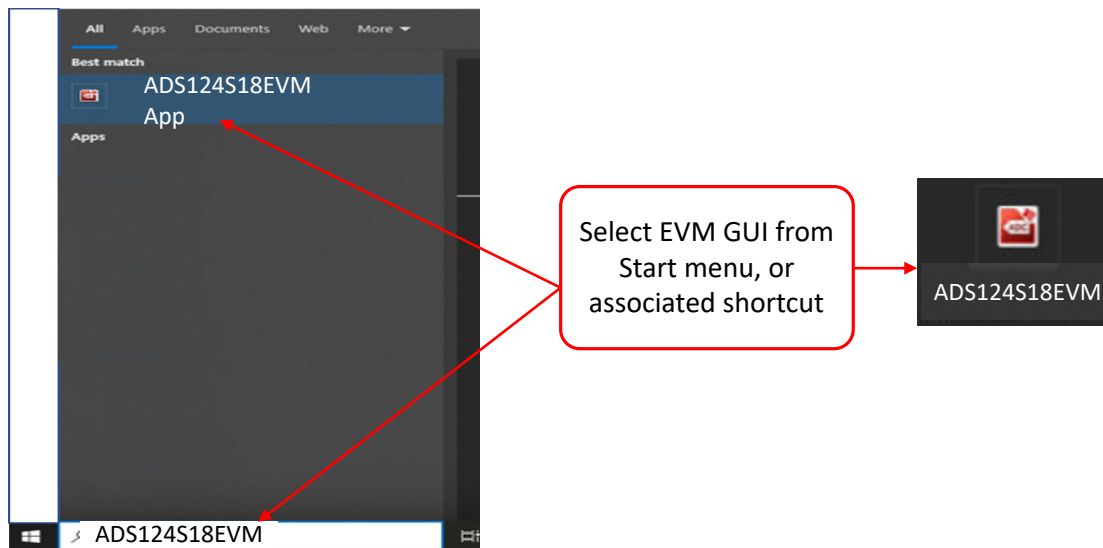

Figure 4-2. Launch the ADS124S18EVM GUI Software
5. Launch the GUI software by using the start menu as shown in Figure 4-2 or the installed icon. Check if the *Connected* indicator in the lower right corner in the GUI is green which indicates the ADS124S18EVM and PAMB controller card are successfully connected and communicated with the GUI. If the indicator is gray, check the *Demo Mode* in the upper right corner of the GUI, then uncheck the mode to switch back to normal data capture mode.